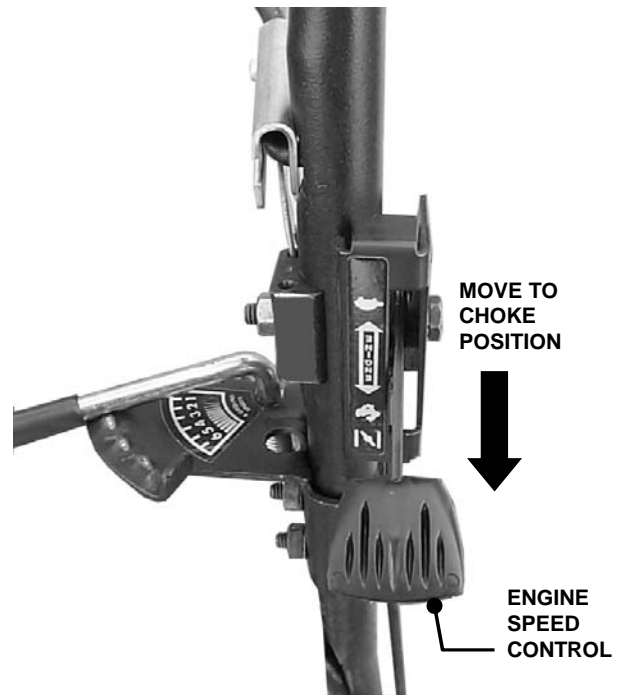

FIGURE 2.5
2. Move engine speed control to the "Choke" position. See Figure 2.5.